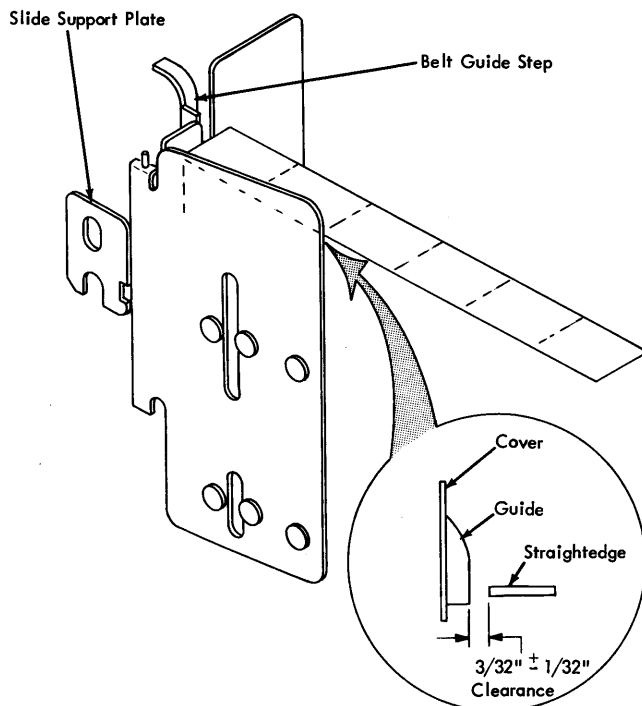

Figure 14. Tractor Door Opening Limit
2. Adjust the slide support plate to limit the tractor door open position. Place a straight edge against the belt-guide step perpendicular to the tractor guide plate as shown in Figure 14. Adjust the slide support plate to obtain $\frac{3}{4}$ " \pm $\frac{1}{8}$ " clearance between the door and the straight edge. Be sure to maintain proper belt tension when tightening the plate holding nut.